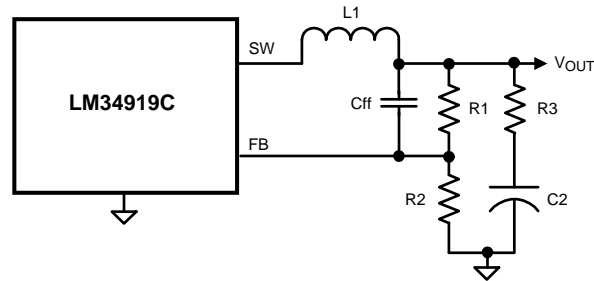

Figure 12. Reduced Ripple Configuration
a) Reduced ripple configuration: In Figure 12, Cff is added across R1 to AC-couple the ripple at V_{OUT} directly to the FB pin. This allows the ripple at V_{OUT} to be reduced to a minimum of 25 mVp-p by reducing R3, since the ripple at V_{OUT} is not attenuated by the feedback resistors. The minimum value for Cff is determined from: